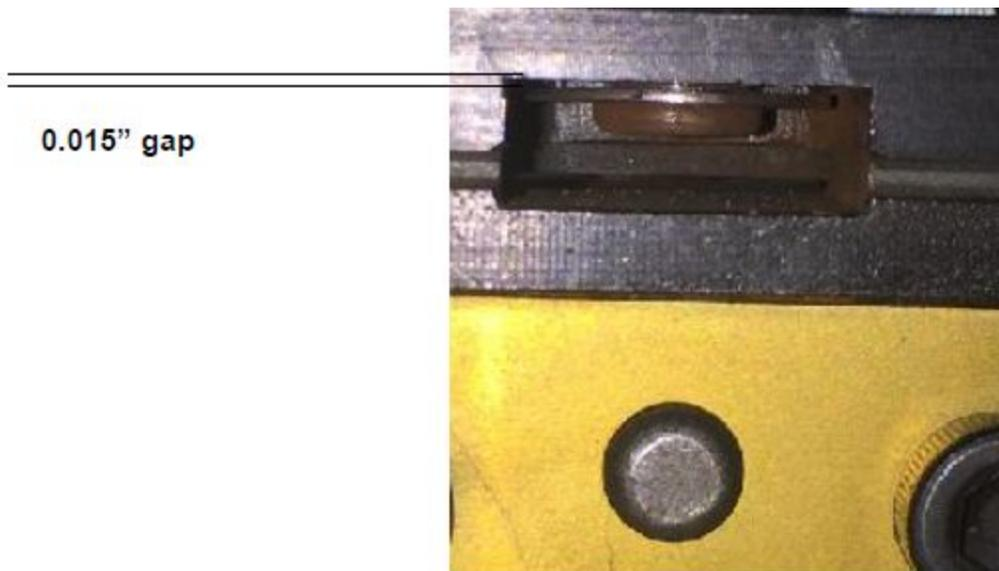

FIGURE 16
7. With the feeler gauge removed, you should be able to see the knife shaft end as shown in Figure 16.